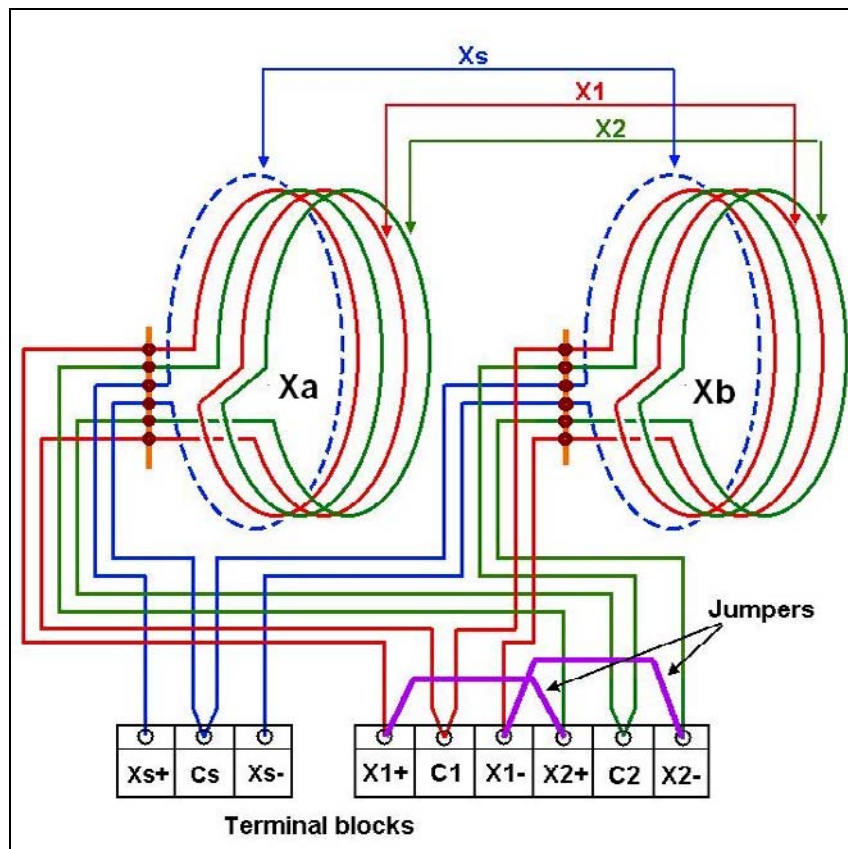

Fig. 4: Electrical diagram of X-axis.
**Note 2:** The coil-forms in aluminium alloy are not closed square frames, but these have a purposely gap near the connecting terminal block of the coil. Electrical wires are soldered to both sides of the gap and are connected to the terminal block also, in order to use the coil-form as a one-turn coil when wanted. We call this exclusive technical concept "In-circuit coil-forms". So, the two forms on each axis make an extra Helmholtz pair of one turn per coil, what is usually named with the prefix "s". For instance: for the X-axis, the aluminium forms make the pair Xs. See Fig. 4 for an electrical schematic including the coil-forms.
**Note 3:** The bifilar winding provides two identical windings on each coil, which can be used as two independent coils to get two identical Helmholtz pairs on each axis. For instance, for the X-axis we have the circuits X1 and X2 on each coil-form, which can be used to make the pairs X1 and X2. The Fig. 4 depicts the electrical diagram for the X-axis.
Every coil-set is delivered with these two pairs on each axis converted in only one by means of a couple of jumpers. In other words, the two identical circuits are in parallel wired (see Fig. 4). In this way the system can be operated at the larger currents and the lower possible voltages. Just cutting the jumpers can easily separate the two circuits on each axis, to use these in different configurations as needed.
All the terminal blocks, with M4 brass screws, can be grouped in one corner of the coil-set, as can be seen in Fig. 4.